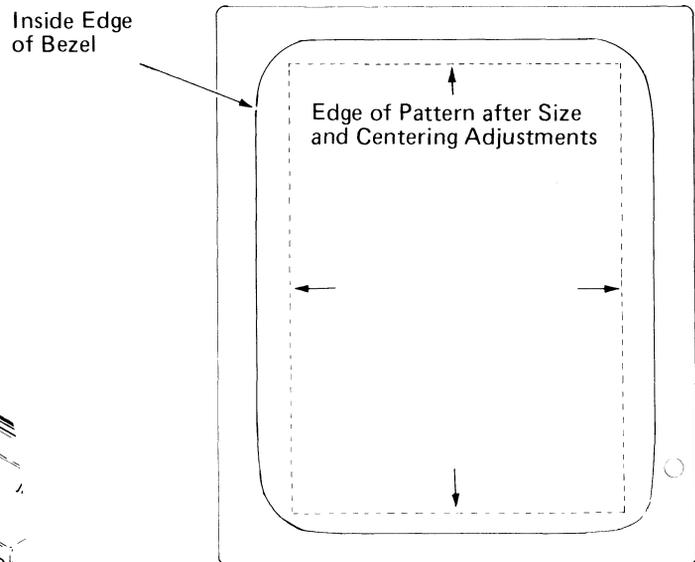

Figure 16 - Image Size After Adjustments
4. Rotate the two rings in opposite directions, at the same time and in equal amounts, to center the image top to bottom on the screen (see Figure 16).